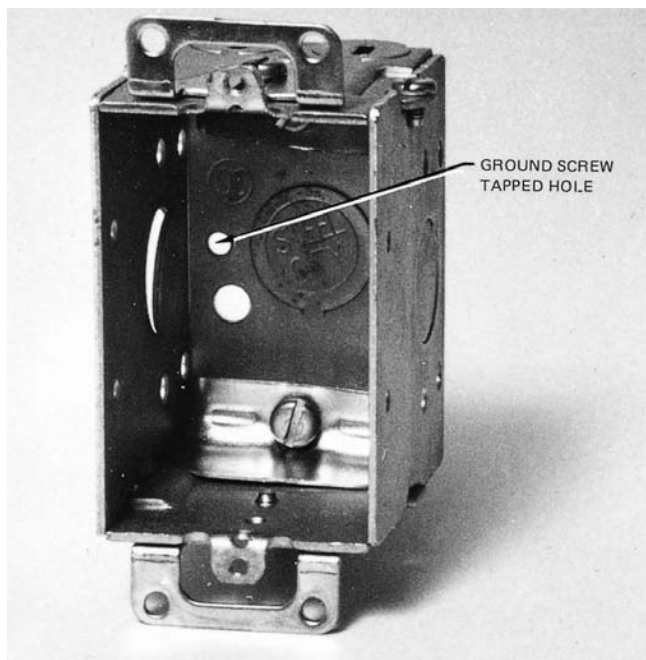
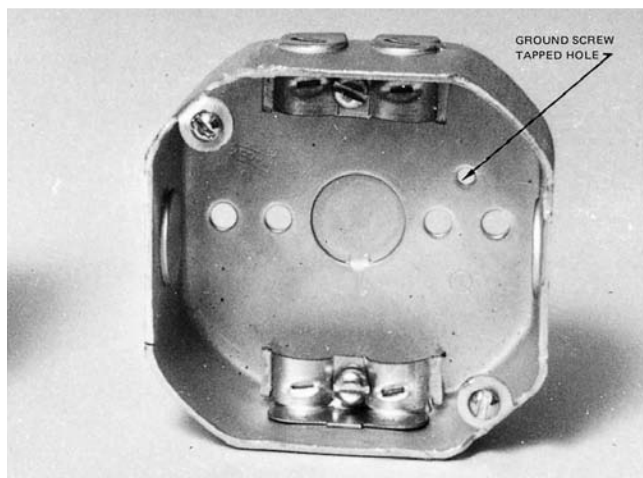
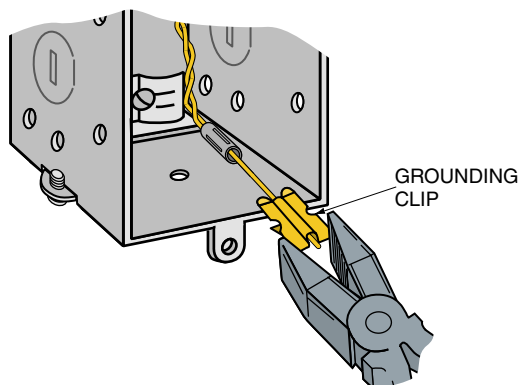

Figure 4-17 Gang-type switch (device) box.
Figure 4-18 Outlet box.
Figure 4-19 Method of attaching ground clip to a metal switch (device) box. See 250.148.
The *Code* in 314.40(D) requires that all metal boxes have provisions for the attachment of an equipment grounding conductor. Figure 4-17 shows a gang-type switch (device) box that is tapped for a screw by which the grounding conductor may be connected underneath. Figure 4-18 shows an outlet box, also with provisions for attaching grounding conductors. Figure 4-19 illustrates the use of a small grounding clip.